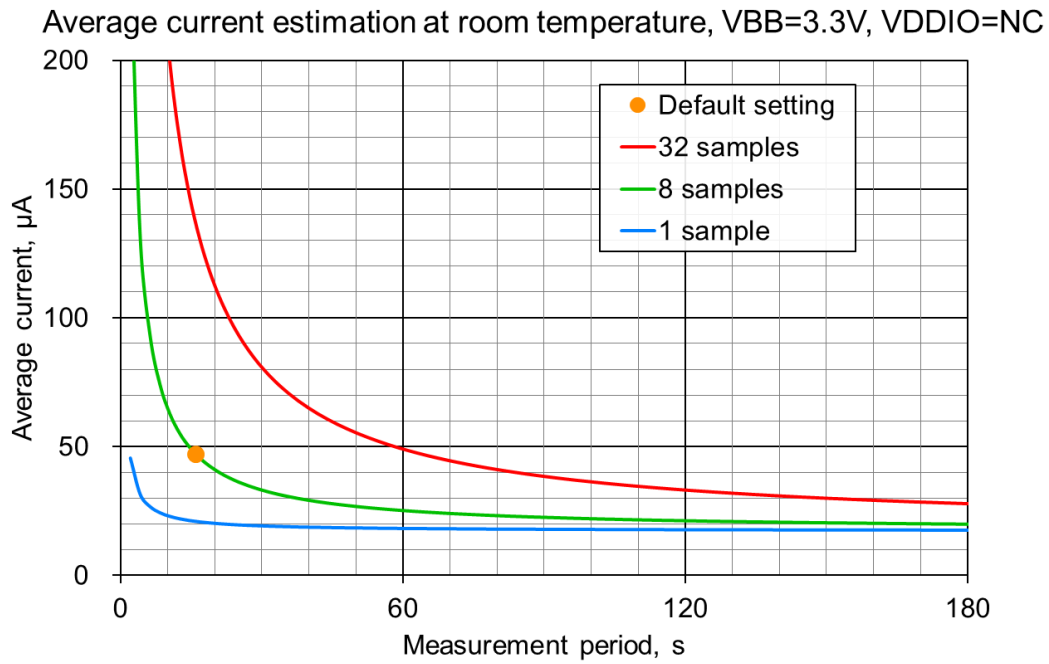

Figure 4 Average current
- Note 8: With default settings and nRDY disabled. See Figure 4 Average current.